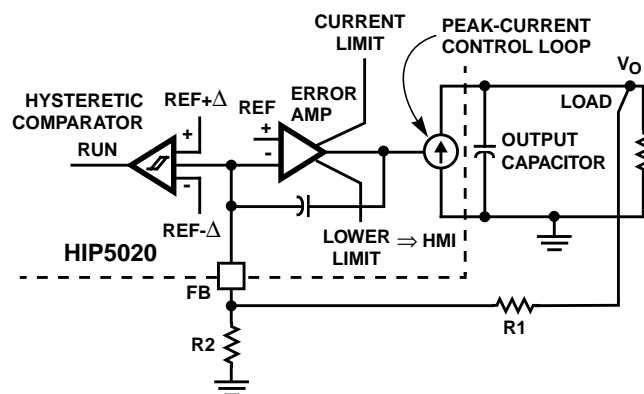
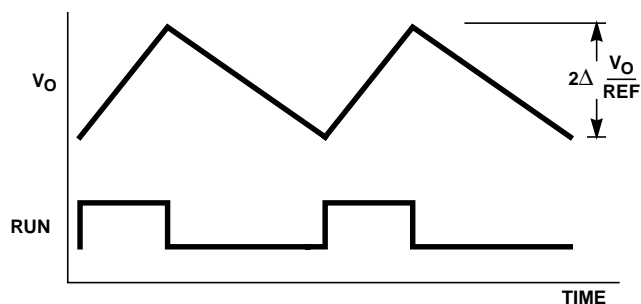

FIGURE 5. SIMPLIFIED DIAGRAM OF OUTPUT VOLTAGE REGULATION AND MODE SWITCHING
FIGURE 7. TYPICAL HYSTERETIC MODE OPERATION
When averaged over many switching cycles, the entire peak-current control loop can be simplified and described as a voltage controlled current source. Figure 5 shows a simplified diagram of this operation. The current source supplies the output capacitor and load. The outer voltage regulation loop consists of an error amplifier and compensation components. The error amplifier programs the inductor current (as described above) to the value required to regulate the output voltage. Both the error amplifier and hysteretic comparator monitor the feedback (FB) pin. During the Run mode, the feedback node voltage (V_{FB}) is held to the reference voltage (REF) by the voltage feedback loop. V_{FB} is related to V_o , R1 and R2.
The HIP5020 operates in the hysteretic mode with low output current. In this mode, the hysteretic comparator cycles the control on (RUN = High) and off (RUN = Low) as a function of the output voltage and the FB voltage level. Figure 7 illustrates the averaged Hysteretic Mode operation with reference to Figure 5. At light load, the error amplifier output voltage is held to the HMI voltage (V_{HMI}). This level commands an inductor current that exceeds the load current. The excess current flows into the output capacitor which increases the output voltage (V_O). The voltage feedback loop no longer holds V_{FB} at the reference voltage. When V_{FB} increases to the Upper Hysteretic Trip Level, the RUN signal transitions Low to power-down most of the control's functions, and the load is supplied by the output capacitor. After V_{FB} (and the equivalent output voltage) drops below the Lower Hysteretic Trip Level, RUN transitions High, turning on the controller. The converter replenishes the charge on the output capacitor (C1). This cycle repeats to regulate the output voltage.